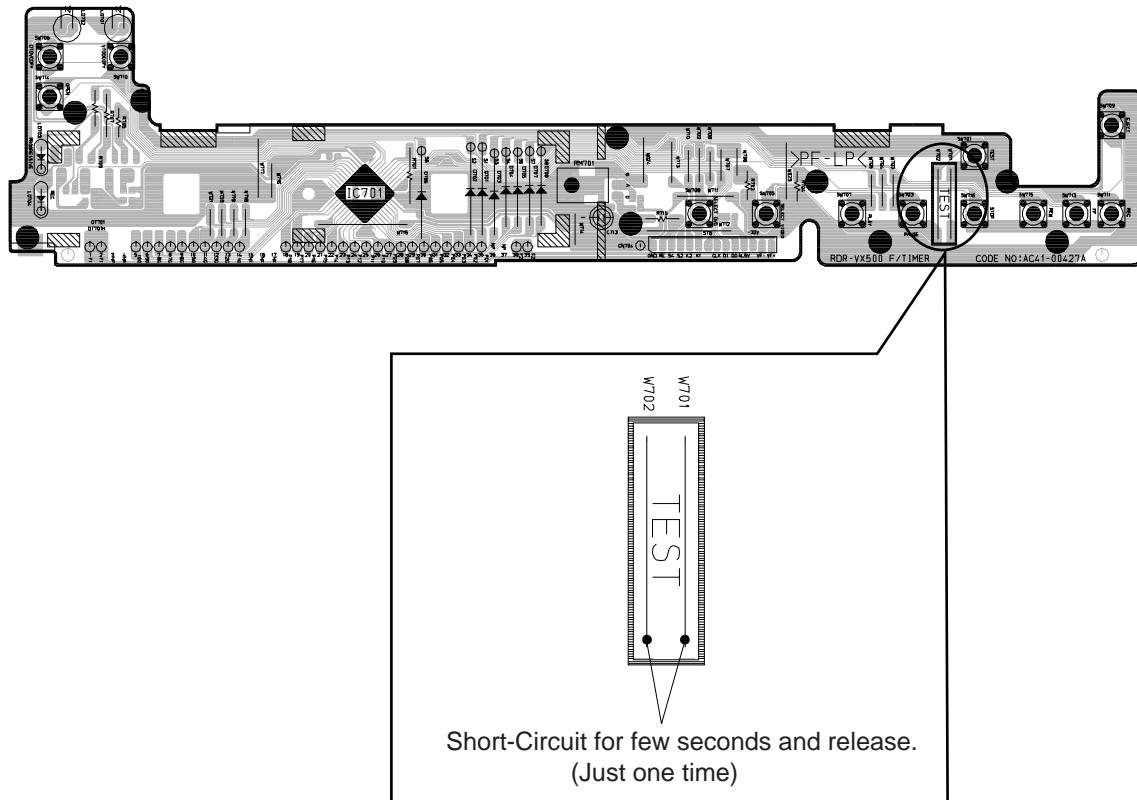

Fig. 6-2 Function Timer PCB (Top View)
- 2) Intermittently short-circuit the two Test Points on Function Timer PCB while setting the adjustment mode. (See Fig. 6-2)
- 2) Intermittently short-circuit the two Test Points on Function Timer PCB. (See Fig. 6-2)